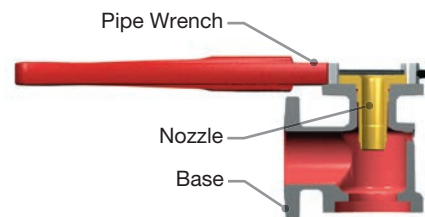
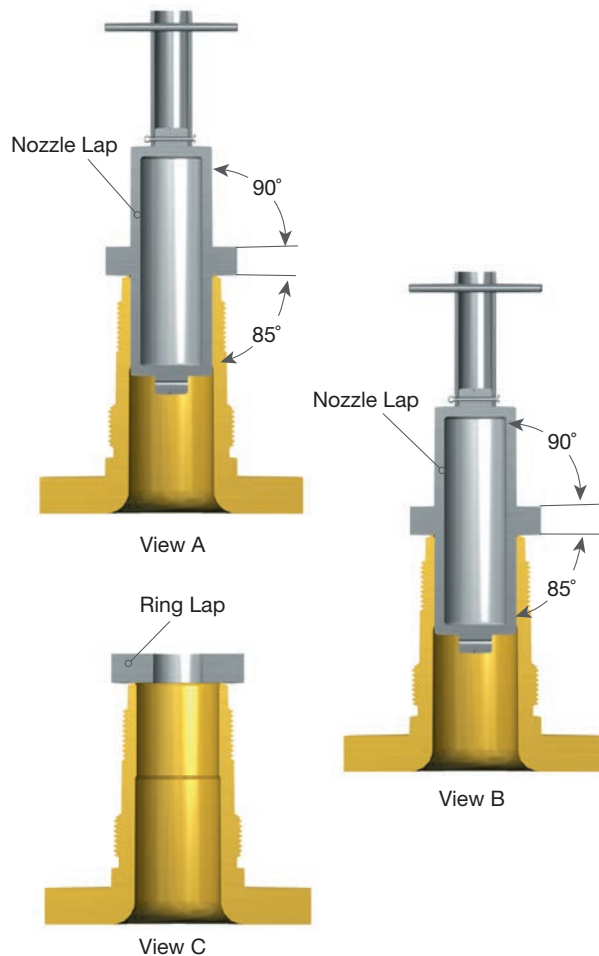

Figure 20: Removing the Nozzle from the Base
Figure 22: Lapping Nozzle Seats
19. Use a large pipe wrench on the nozzle flange to remove the nozzle (2) from the base (1) (see Figure 20).
Nozzle laps (See Figure 20) are available from Baker Hughes. Do not use these laps if the valve nozzle can be removed and machined to the proper seat dimensions (see Tables 1a and 1c).
Lap the 5° angle of the nozzle first (see Figure 20, View A). Then, invert the nozzle lap and use the flat side as a “starter” lap to ensure the seat is square (see Figure 20, View B). Use a ring lap in a circular motion to finish lapping see Figure 20, View C and Reconditioning of Laps (Figure 22 in Section XIII.G). Keep the lap squarely on the flat surface and avoid rocking it. Rocking will cause rounding of the seat.